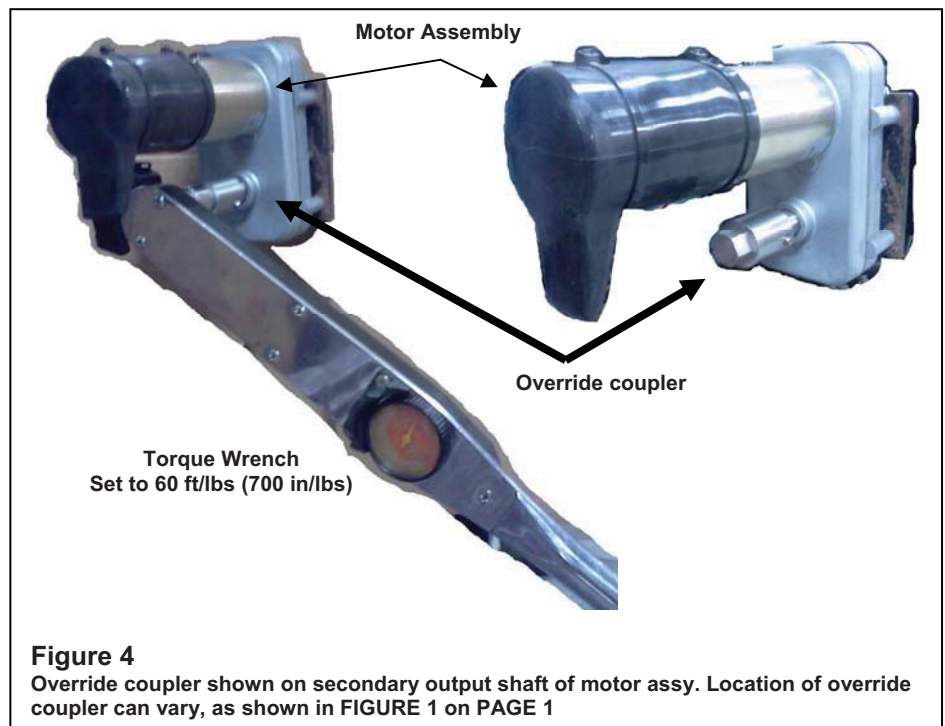

Figure 4
4. Apply 60 ft/lbs (700 in/lbs) of torque to the override coupler. See **FIGURE 4**.